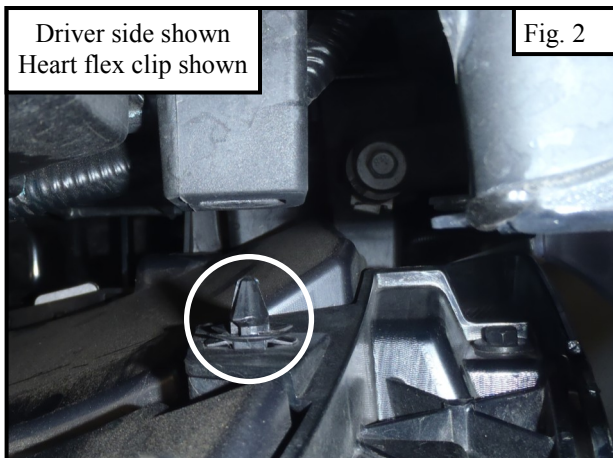

Fig. 2
4. Detach four clips that attach the grille to the vehicle. Remove the grille. Refer to Figure 2 and 3. (Note: The clips may need to be gently pried off with a screwdriver.)